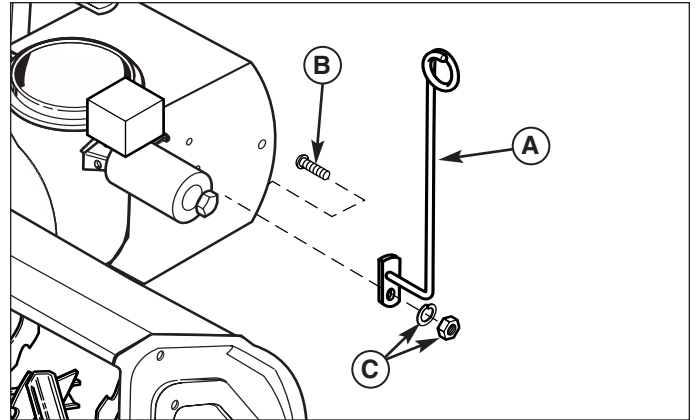

Figure 19. Deflector Control Cable Support Arm
1. Assemble the deflector control cable support arm (A, Figure 19) to the left side of the snowthrower using one 5/16-18 x 1" carriage bolt (B), lockwasher, and nut (C) using the holes shown.